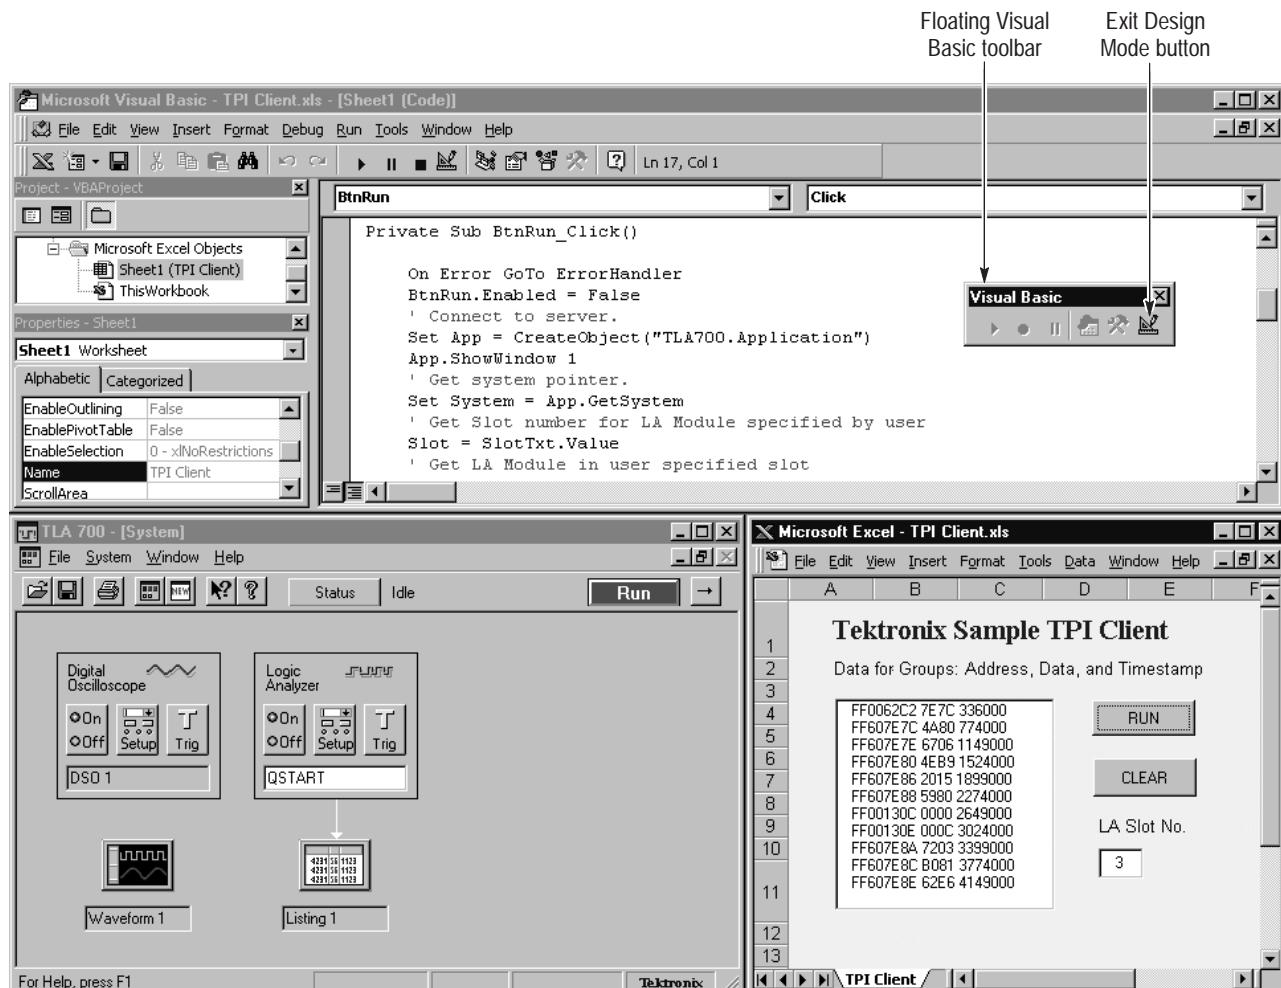

Figure 4-35: Results after clicking on the client application RUN button
8. Continue to single-step (F8) until you reach the breakpoint. The output of the client application should look like Figure 4-35.